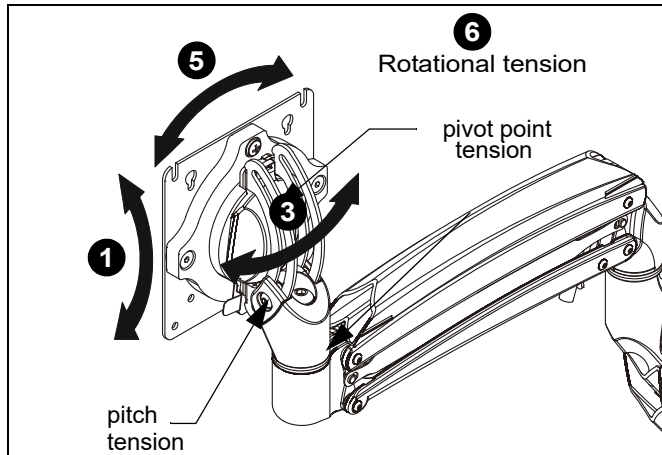

Figure 13
1. Adjust pitch to desired tilt position. (See Figure 13)
2. Adjust pitch tension screw to change the adjustment tension. (See Figure 13)
3. Adjust pivot position as desired. (See Figure 13)
4. Use 3/16" hex key (K) to adjust pivot point tension screws to change pivot adjustment tension. (See Figure 13)
5. The monitor may be adjusted 90 degrees in either direction in order to provide a portrait view of the monitor. (See Figure 13)
6. Use a Phillips screwdriver to adjust rotational adjustment screw to adjust rotational tension. (See Figure 13)